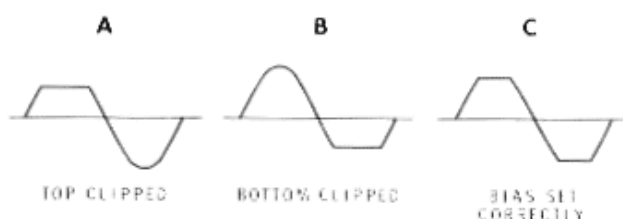

Figure 2
- ( ) Rotate the FEEDBACK control fully clockwise. Note that the positive or negative half of the waveform is clipped as shown in part A or B of Figure 2.
- ( ) Adjust the BIAS control so both halves of the waveform are clipped equally, as shown in Part C of Figure 2.